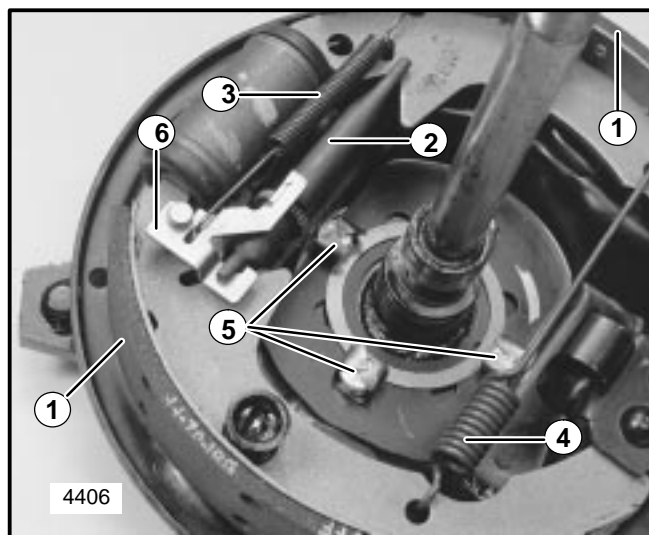

FIGURE 8
1. Brake Shoe Contact Pads (6)
5. Install brake shoes and brake adjuster. See Figure 8.
6. Install brake retainers, brake lever and small retainer spring. Install larger retainer spring. See Figure 8 on page 16.
- Note position of brake lever and small retainer spring. See Figure 8 on page 16.